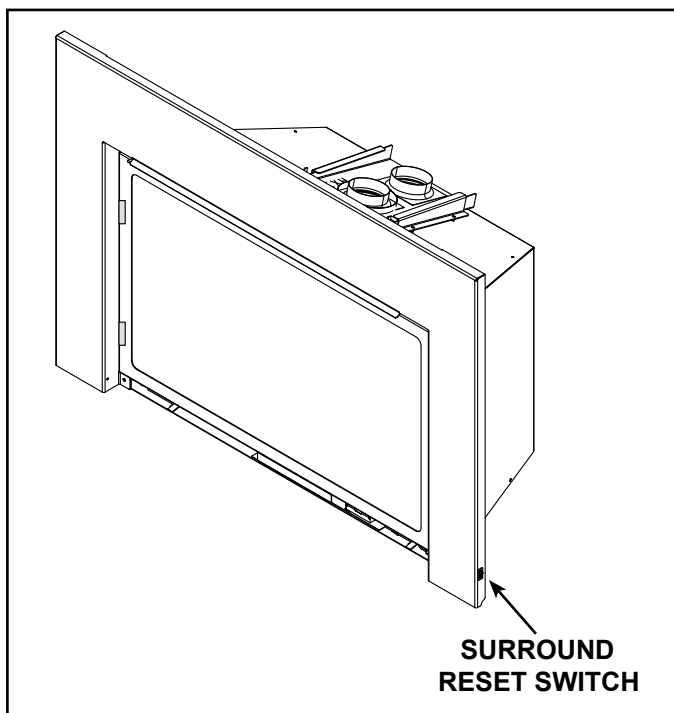

Figure 3.9 Surround Reset Switch
- Toggle the appliance reset switch to the off position. See Figure 3.9 for reset switch location.